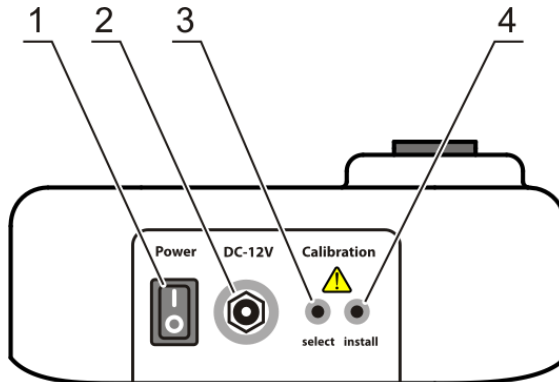

Figure 3. Back view
- Connect the external power supply unit into the socket at the rear side of the unit (fig. 3/2) and position the unit for an easy access to the external power supply and the power switch.
5.2 Connect the external power supply to electric circuit. Switch on the unit using the **Power** switch (fig. 3/1) on the rear panel.
- 6.4 Connect the external power supply to electric circuit. Switch on the unit using the **Power** switch (fig. 3/1) on the rear panel.
- 6.5 Press the **Select** button (fig. 3/3) on the rear of the unit.
- 6.6.1 **Empty socket.** Display shows $-\cdot-$ indication. Press **Install** button (fig. 3/4) to save empty socket value. Display shows next required calibration value.